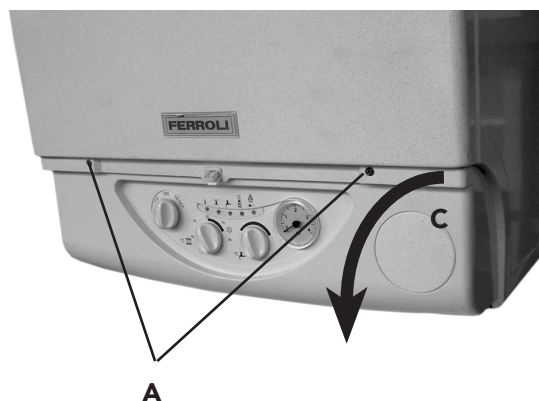

Fig. 29
### 7.03 To lower the control panel (fig. 29)
- Remove the two fixing screw (fig. 29) "A"